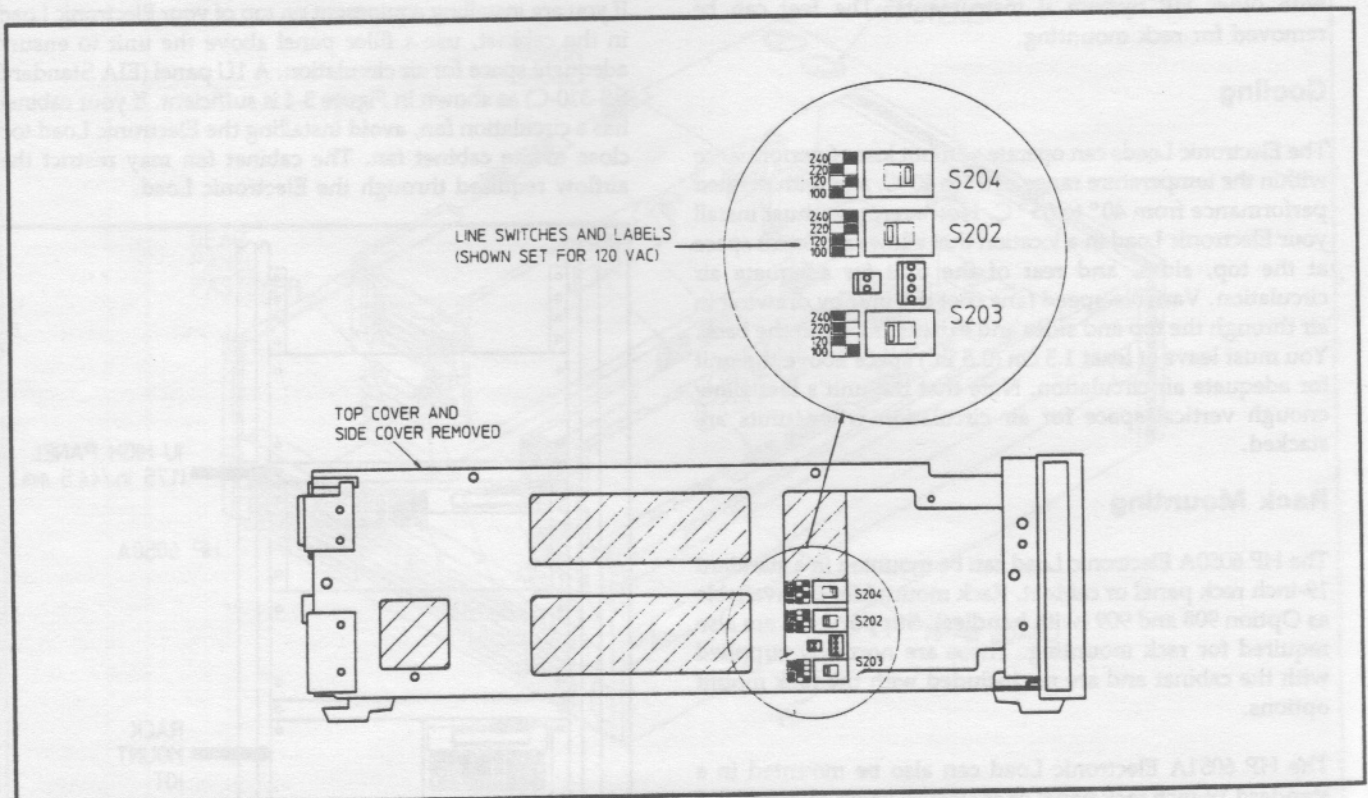

Figure 3-5. Line Voltage Switches
3. Locate the line voltage select switches **S202**, **S203** and **S204** in the Electronic Load (see Figure 3-5).